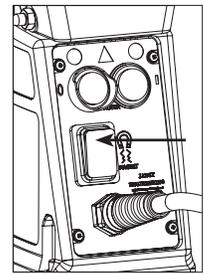

Figure 7
1. Move magnet switch to "ON" position. **(Figure 7)** Switch will illuminate to indicate power is present—magnetic base should be firmly secured to workpiece at this time. Thin materials may require an additional steel plate to achieve proper magnet adhesion.